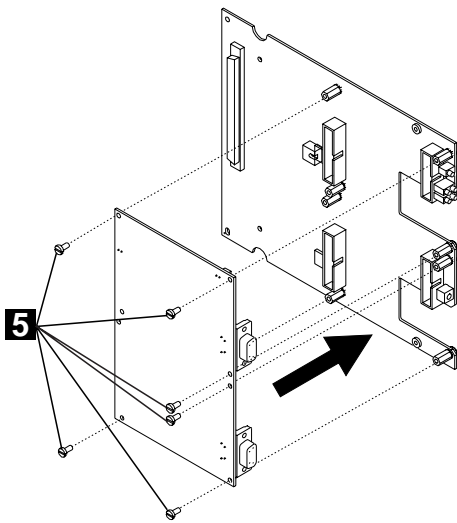

Figure 4-7. Attaching the I/O Card
- d** Detach the I/O card from the motherboard by removing the six screws (**5** in Figure 4-7).